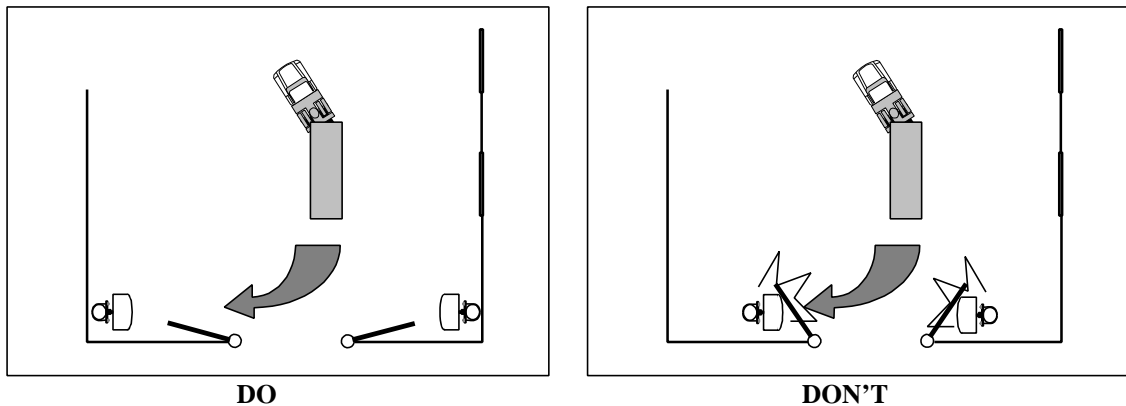

Figure 11
3. **Physical Protection.** Install the Transmitter and Receiver in locations that provide protection from accidental damage as well as from tampering. Simple devices such as bumper posts or parking guards may be used to protect equipment from damage from vehicles. See Figure 11.